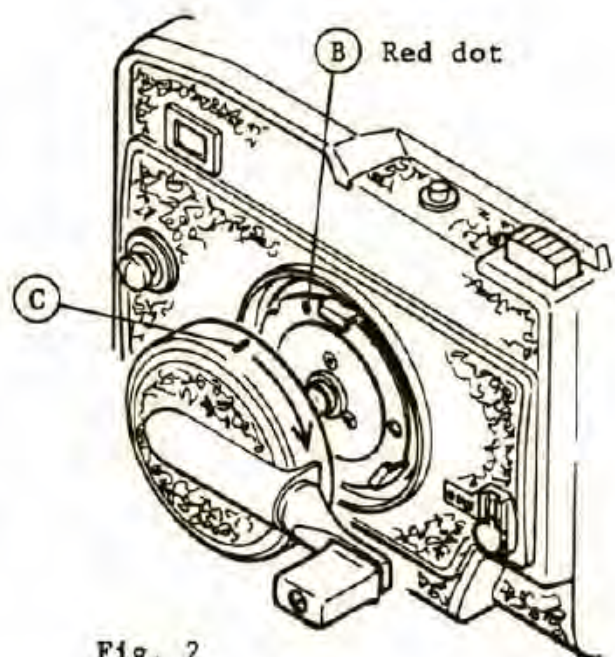

Fig. 2
- 1 Align the red dot (B) of the camera body with the index line (C) on the film advance crank as shown in Fig. 2.
- 2 Push the film advance crank into the receptor, then twist approximately 20° clockwise while pushing in on the release lever (A), and it will lock into place.